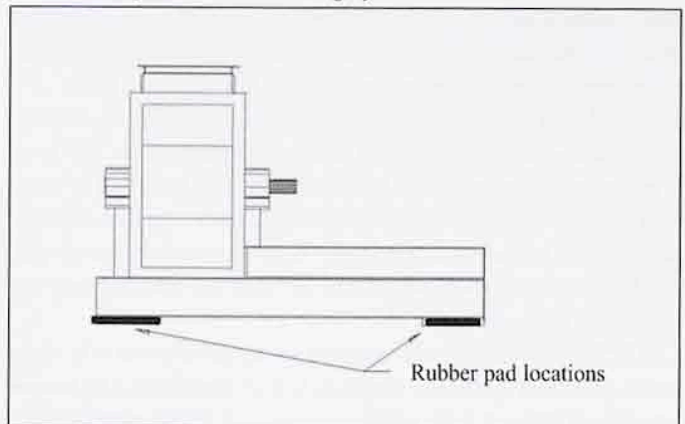

Figure 3-15. Rubber pad mounting locations.
1. The first aspect of a hammermill installation is to place rubber mounting pads at the corners of the hammermill base (see Figure 3-15). Elaborate isolation mounting springs can be used but are not necessary. A shock absorbent soft rubber or 1-in. thick pad of neoprene works well. Do not tighten the hold-down bolts too much. This will remove the vibration and noise absorption that the pads can provide.